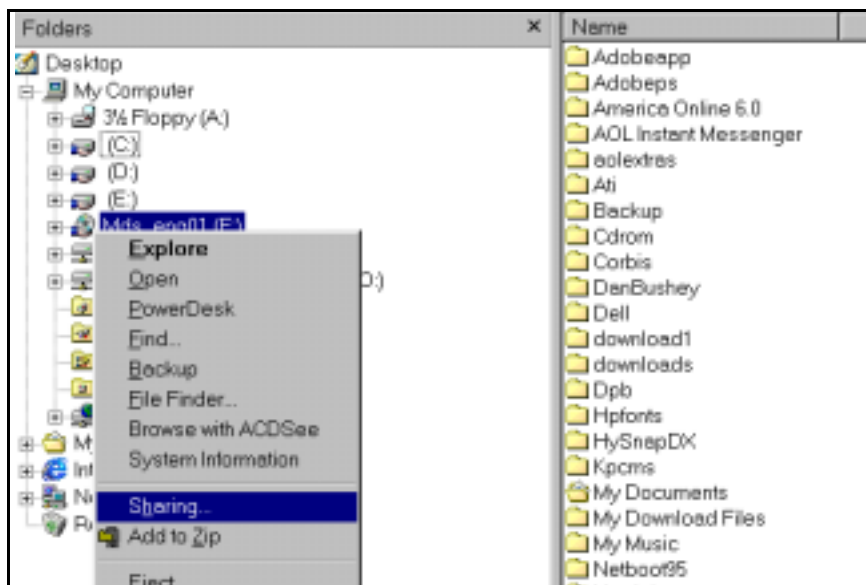

Figure 15-6 Windows Explorer
2. Right-click on *CDROM* icon in Exploring window, and select *Sharing* from drop down menu (see Figure 15-6).